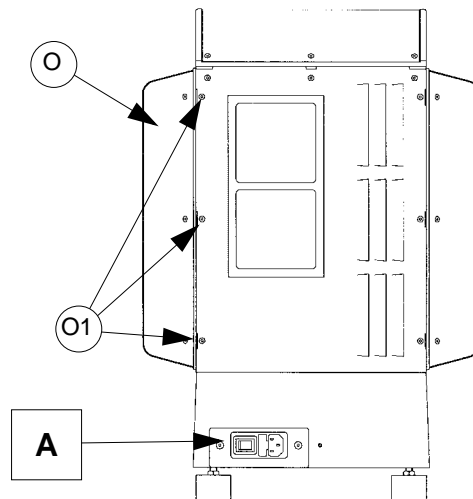

Fig. 27
This is fitted to the machine supply plug (fig. 27) (which also contains a spare fuse). When this fuse cuts out, Quattrocode is completely cut off, the display shows nothing, there is no response to any of the control keys and there is no communication with the PC.
- 2) remove the three screws (O1) (fig. 27 - rear view)